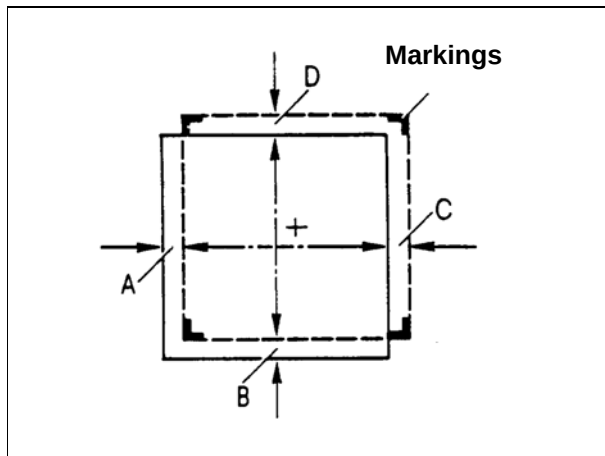

Fig. 14
- Develop the film and measure the deviation. Acceptable deviation $\pm 1.7\%$ (Fig. 14).